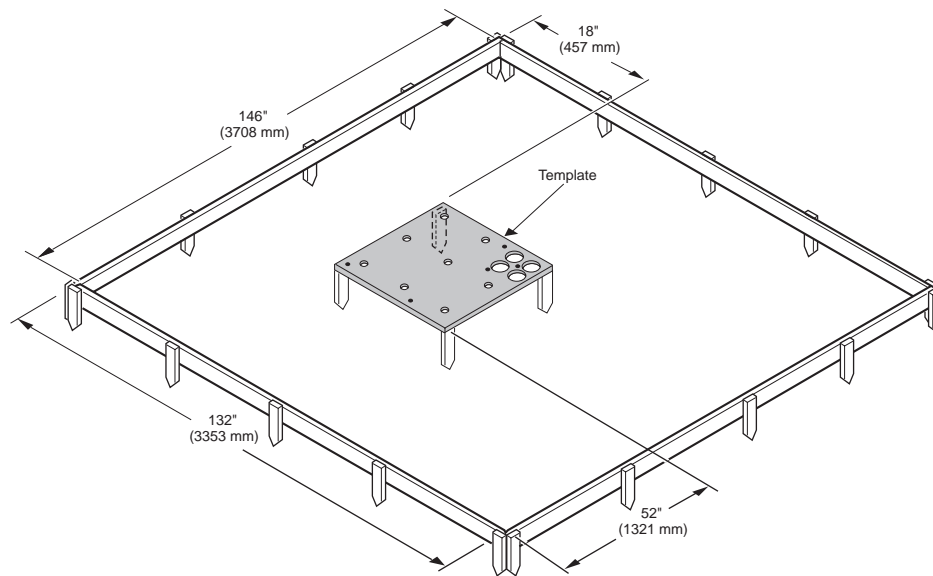

Figure 4. Foundation Pad Preparation
- 4 Construct the concrete form as shown in Figure 4